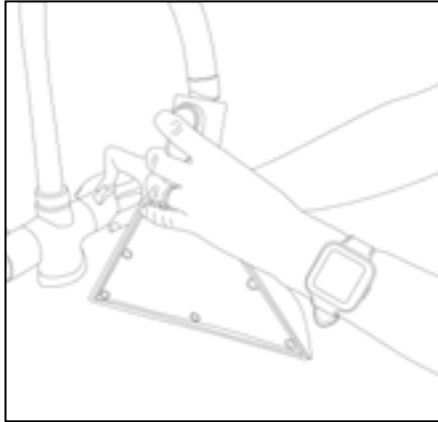

Fig. 1
1. After every use rinse the tools with clean water and leave to dry (Fig 1)